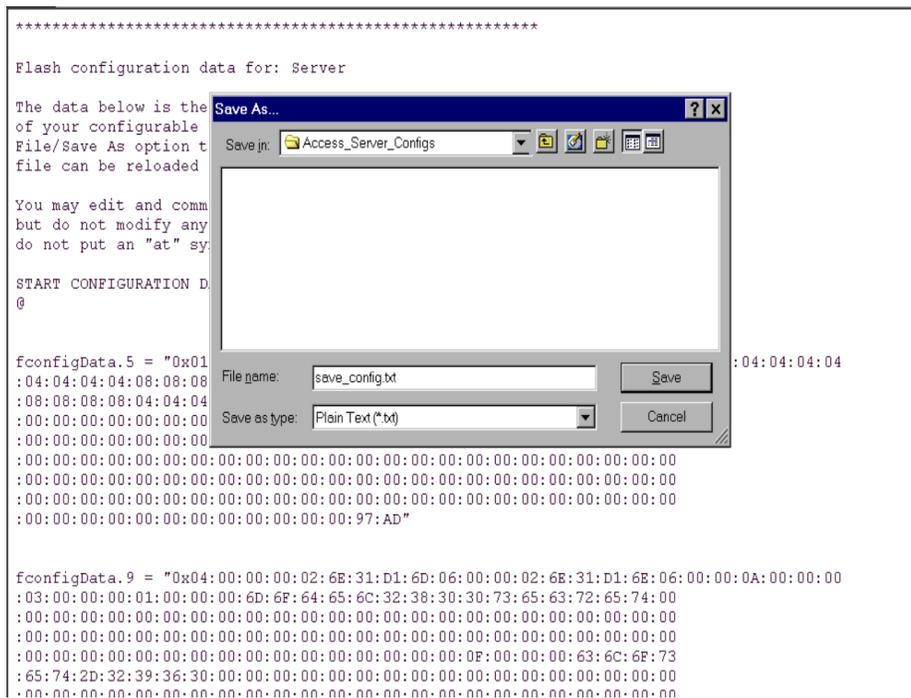

Figure 37. Saving the access server flash memory configuration data as a text file
- To save the displayed data as a text file, select the **Save** option on your browser (see figure 37). For example, under Netscape, select **File > Save As**. A dialog box will display enabling you to save the contents of the export parameters to a text file. Select the location where you want the file stored, type a file name, and click **Save**.